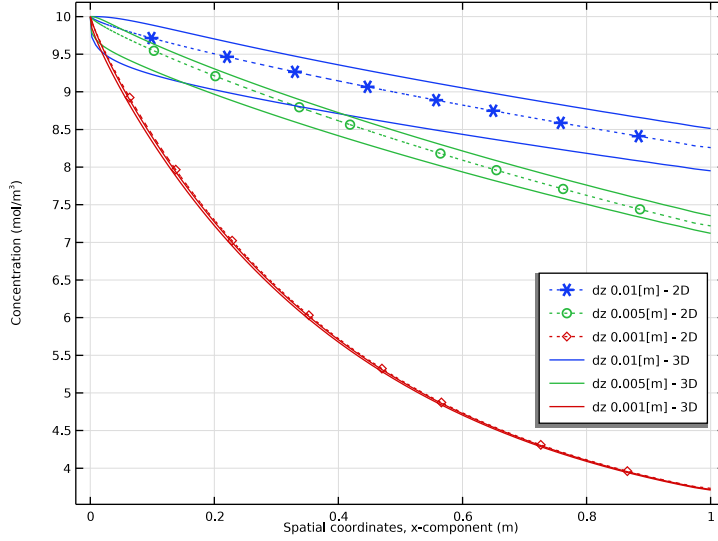

Figure 2: Concentration profiles along edge in 2D and 3D, for all the three thicknesses  $d_z$  solved for.
*Figure 1: Model geometry reduction from 3D to 2D. The upward pointing arrows symbolize flux out from the domain. In this model there is only flux through the upper boundary. The upside and downside edges in 3D, for which concentration profiles are plotted in Figure 2 are indicated with dashed arrows.*
Figure 2 shows the concentration on an edge along the  $x$ -axis for all three thicknesses solved for, and for both the 2D and the 3D component. For the 3D component, the concentration along both the upside and the downside edges are plotted (see Figure 1 for